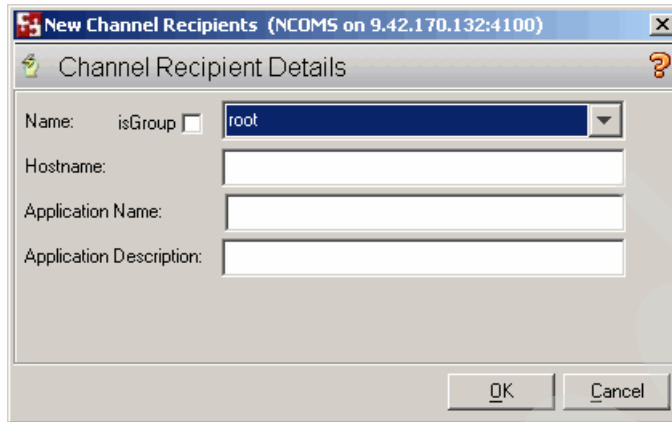

Figure 4-62 Channel recipient window
- f. The New Channel Recipients window opens, as shown in Figure 4-62 on page 169. Define the recipients for the notification in this window and click **OK**.